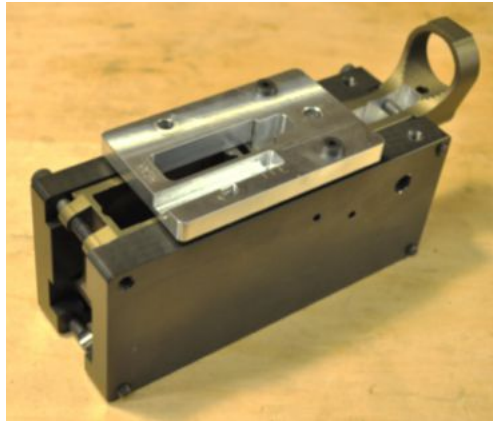

Figure 4.3 (left) installation of the trigger pocket jig to locate starting hole for trigger hole
- Remove the plates and install the trigger template as shown in figure 4.3 using the 0.75" screws
- Make sure the island is down and the jig orientated as shown in figure 4.3